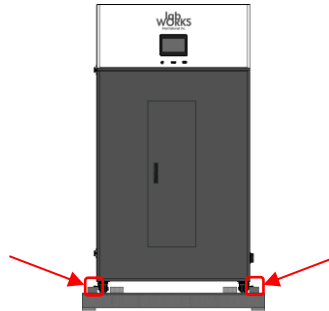

Figure 2-2 Remove the Braces & Brackets
1. Remove the wooden brace and metal shipping bracket (Figure 2-2) from both sides of the pallet.